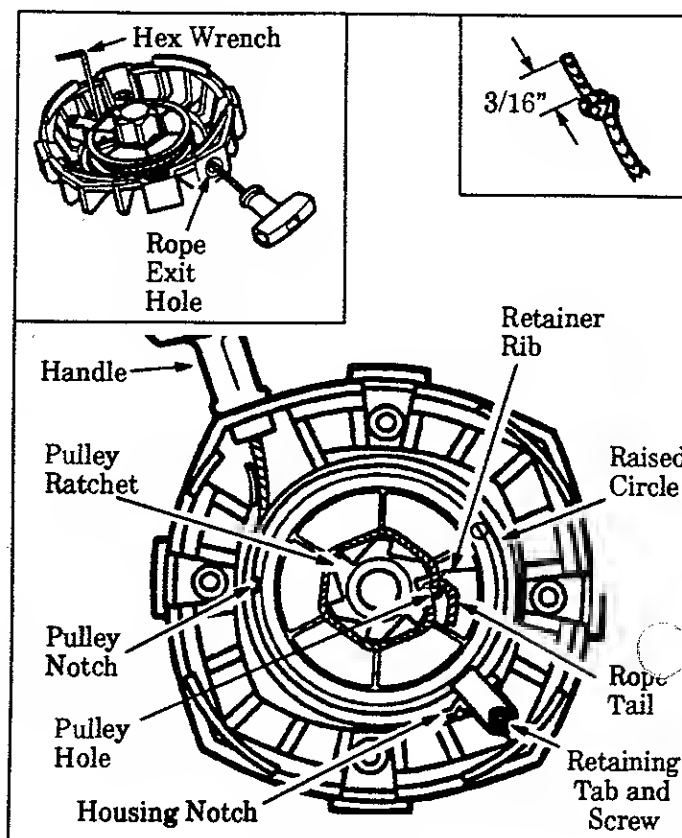

Figure 25
8. Untie Rope around the Pulley Ratchet (Figure 25) and pull the Rope out of the Pulley Housing.
9. Hold Pulley Housing as shown in Figure 25. Hand turn the Pulley clockwise → as far as it will go.
Then, turn the Pulley counterclockwise ← until the Pulley Notch is aligned with the Housing Notch next to the Retaining Tab and Screw. Figure 25.
11. Insert the small hex wrench into the hole formed by the Notches to hold the Pulley in position. Figure 25 (inset-upper left).
15. Insert one end of the Rope through the Handle and secure with a knot. Leave a 3/16" pigtail behind the knot. Figure 25 (inset-upper right).
16. Wrap the Rope counterclockwise  around the Pulley Ratchet and tuck loose end under the Rope at the Pulley Hole. Figure 25. Leave a 1/4 to 3/8 inch tail laying flat on top of the Pulley between the Retainer Rib and the Retainer Post as shown in Figure 25. The rope tail *must not* extend beyond the Raised Circle on the Pulley to prevent interference with the Retaining Tab. Figure 25.
17. Insert the other end of the Rope through the Rope Exit Hole into the inside of the Housing, into the Pulley and up through the Pulley Hole. Figure 25.